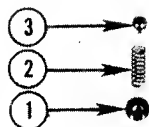

FIG. 4.56-RELIEF VALVE PARTS
9. It is usually not necessary to remove the charge relief valve located in the outer circumference of the pintle as shown in Fig. 4.56, to remove it, remove plug, No. 1, Fig. 4.56. Inspect spring, No. 2, for bends. Inspect ball, No. 3, and seat in pintle for pitting or grooves.